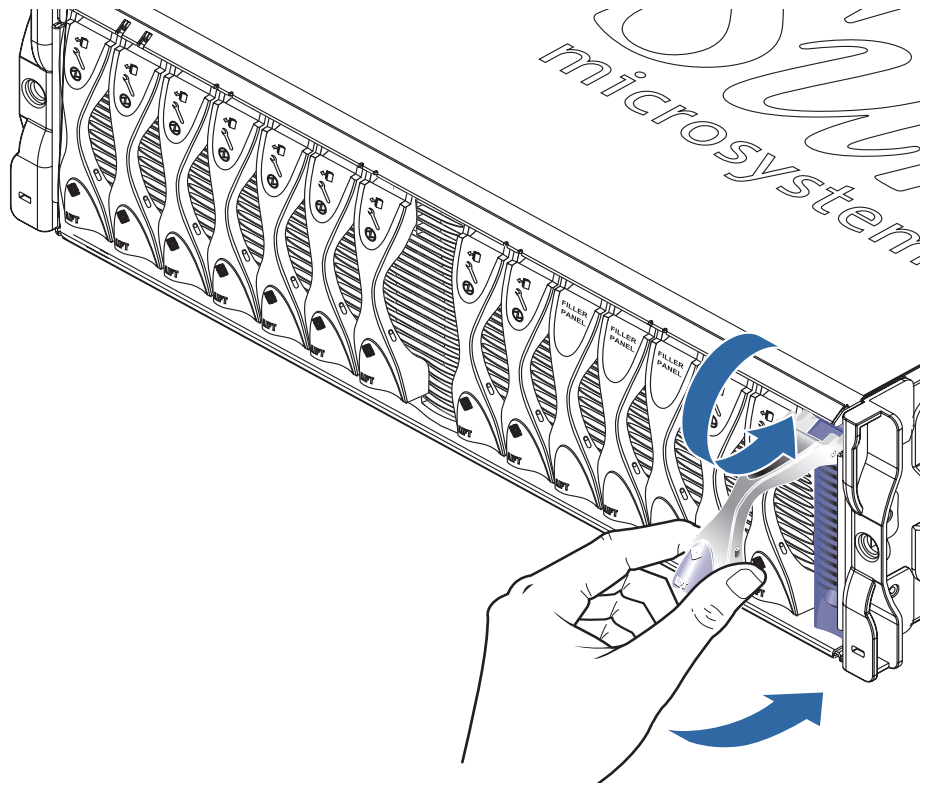

FIGURE 4-7 Closing the Blade Lever Mechanism
5. Close the blade lever fully by pushing it down until you feel the latch click in place. This engages the blade into the chassis slot (FIGURE 4-7).